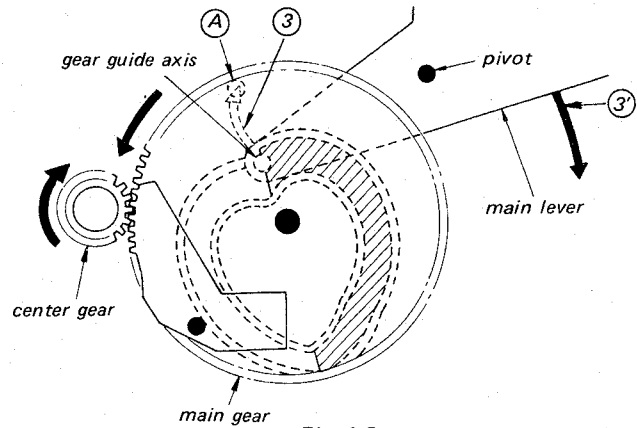
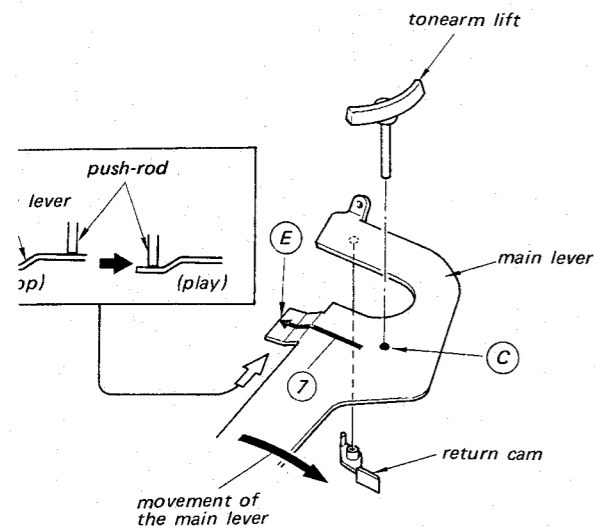
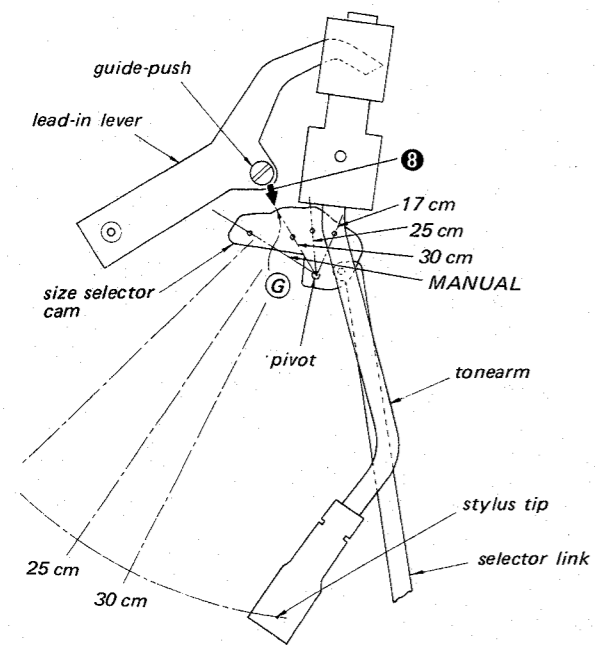
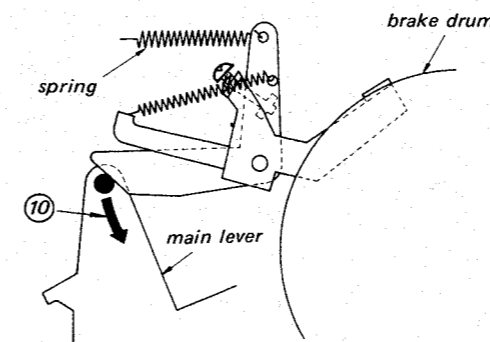

Fig. 1-3.
Fig. 1-5.
Fig. 1-6.
Fig. 1-8.
4. The gear guide axis at the tip of the main lever, is guided by the shaded section of the heart-shaped cam groove located on the main gear, moving across in a curved path ③ to position A. Therefore, the main lever moves in the direction of arrow ③'. (See Fig. 1-3.)
The central axis of the push rod resting against the tonearm lifter is on the position (C) in STOP mode. (See Fig. 1-5.)
During lead-in, the main lever moves across in the direction of arrow (3) (See Fig. 1-3), resulting in the position of the central axis of the push rod moving across as shown by arrow (7). (Fig. 1-5.)
3. The guide-push stops at the position determined by the surface (G) (Fig. 1-6) of the record size selector cam. The push rod consequently descends to the lower position (E) of the main lever (Fig. 1-5), resulting in the tonearm lowering onto the surface of the record for the commencement of play.
4. The position where the tonearm lowers (30 cm, 25 cm, 17 cm) is determined by the position of the record size selector cam shown in Fig. 1-6. The guide-push of the lead-in lever moves across in direction of arrow (8) during lead-in, and meets the size selector cam at surface (G) (for the 30 cm example shown), thus determining the drop point at the outer edge of a 30 cm record. That is, this position determines the distance moved by the lead-in lever, which consequently determines the rotational angle of the brake drum (and of the tonearm as well). With the record size selector knob set to the MANUAL position, the lead-in lever moves a little and the tonearm does not move.
5. The return cam attached to the main lever (see Fig. 1-5) pushes against the pin of the brake drum, forcing the tonearm to move back (horizontally) towards the arm rest.
6. The return operation is completed when the tonearm arrives back at the arm rest. The main gear comes to a stop in the position shown in Fig. 1-3.
Furthermore, a spring is also employed to exert pressure upon the main lever in the direction of arrow (10) (see Fig. 1-8), thus keeping the main gear in the stop position. (See Fig. 1-3.)